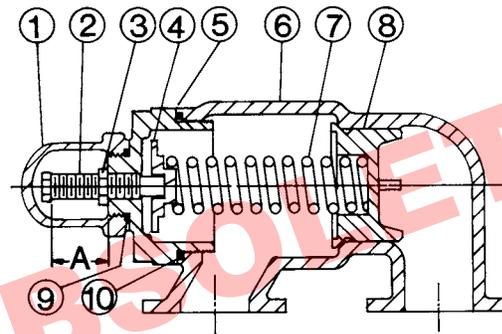

FIGURE 9
2. Measure and record length of extension of adjusting screw. Refer to "A" on Figures 9 and 10.